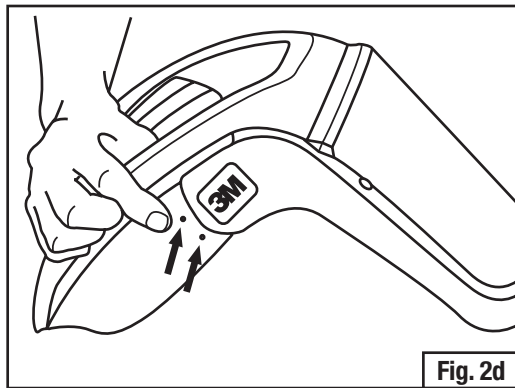
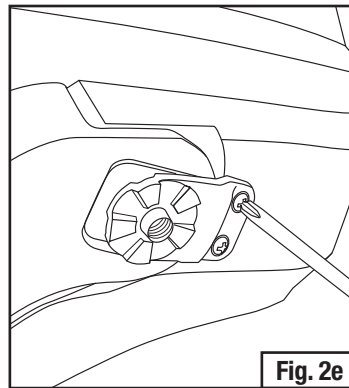

Fig. 2d
Fig. 2e
- Install the cam and pivot post onto the visor frame post. Ensure the cam and pivot posts are being installed on the correct side of the headgear by following the label on each cam and pivot post (L and R, for left and right as worn) (Fig. 2c). Line up the screw holes on the cam and pivot post with the pilot holes on the headgear shell. If this is a new installation locate the earmuff attachment points on the outside of the headgear shell (Fig. 2d). Note on the M-400 and M-300 Series Headgear there are visible indents on the outside of the shell where the earmuffs attach. On the M-200, the indents may not be as visible on the outside of the shell. Use a pen or a screwdriver to gently push on the screw attachment points to start the hole (i.e. make an indent). This will make it easier to thread the screws into the shell. Install screws using an appropriately sized manual Phillips head screwdriver, and hand tightening until secure (Fig. 2e).